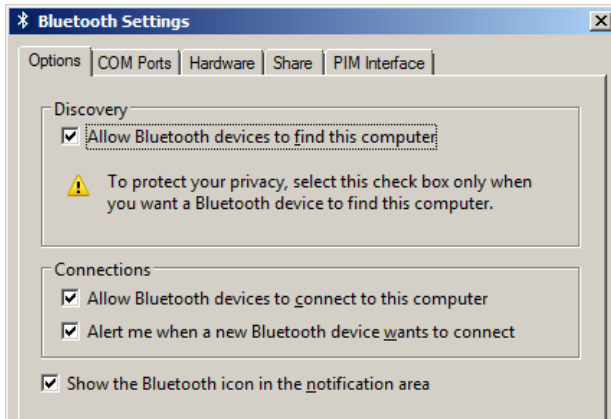

Figure 46: Bluetooth Settings
- Set the computer built-in Bluetooth as Discoverable in *Bluetooth Settings* (Figure 46).